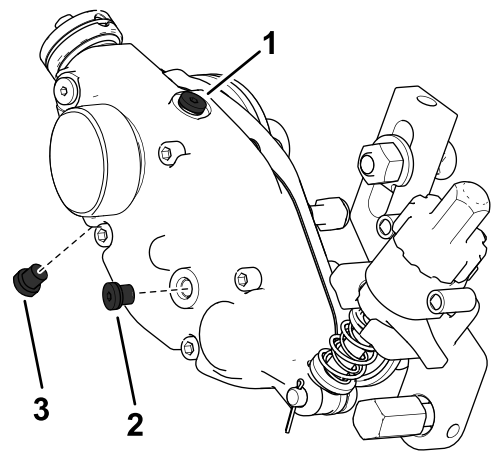

Figure 22
3. Remove the fill plug on the side of the housing and loosen the air vent plug on the top so air can pass through (Figure 22).
2. Remove the drain plug on the bottom of the housing (Figure 22).
7. Install the drain plug (Figure 22).